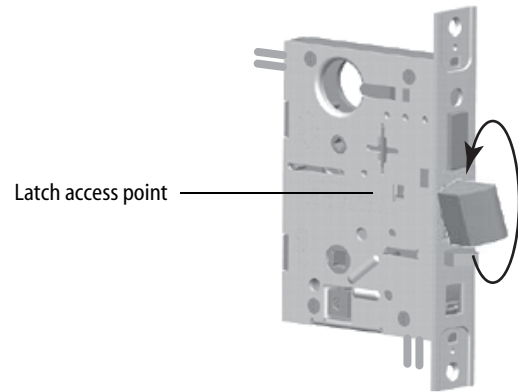

Figure 4 Rotating the latchbolt
- 2 If you need to rotate the latchbolt, insert a flat blade screwdriver into the latch access point approximately 1/2" into the case and press to extend the latch out of the case. See Figure 4.